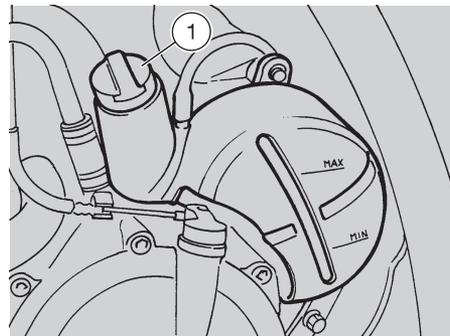

Fig. 16
CHECKING AND TOPPING UP (Fig. 16)
- ◆ Make sure that the level of the liquid contained in the expansion tank is included between the "MIN" and "MAX" notches (Fig. 16).
- ◆ If not, remove the filling cap (1).
- ◆ Put the filling cap (1) back.